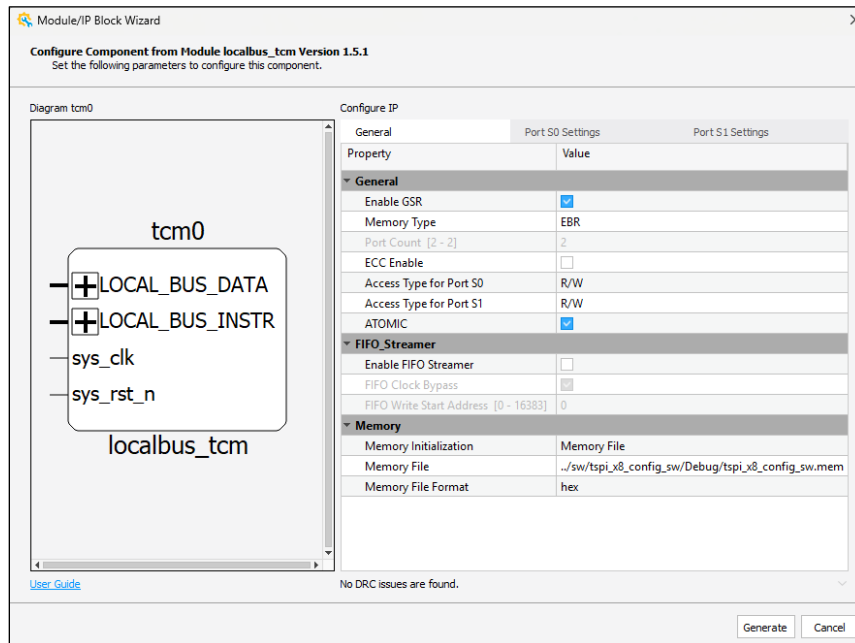

Figure 7.11. System Memory IP Settings to Pre-initialize with Bootloader Software
- Set **Memory File Format** to **hex**. Figure 7.11 shows the system memory IP settings.